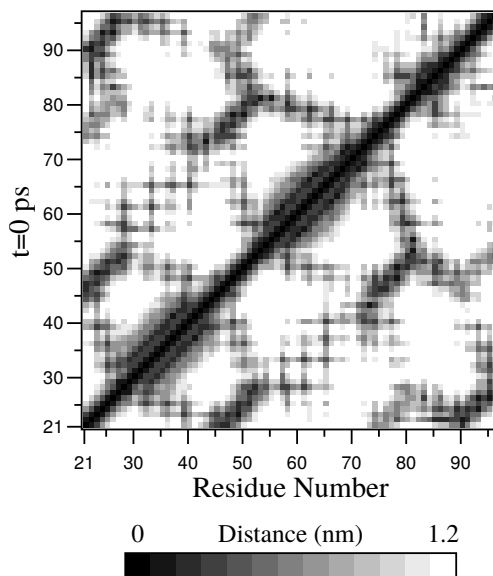

Fig. 5.58: A minimum distance matrix for a peptide *168* (page 547).
- To monitor the *minimum distances between amino acid residues* within a (protein) molecule, you can use the program *gmx mdmat* (page 187). This minimum distance between two residues  $A_i$  and  $A_j$  is defined as the smallest distance between any pair of atoms ( $i \in A_i, j \in A_j$ ). The output is a symmetrical matrix of smallest distances between all residues. To visualize this matrix, you can use a program such as *xv*. If you want to view the axes and legend or if you want to print the matrix, you can convert it with *xpm2ps* (page 259) into a Postscript Fig. 5.58.